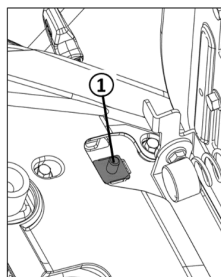

Figure 31
The seat contact switch (Figure 31 ①) ensures that the engine cuts off when nobody is on the operator's seat with the mowing mechanism switched on or when the parking brake is not locked.